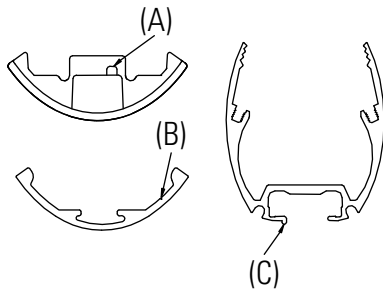

Figure 7
- A. Locate where you would like the track head(s) to be mounted. Snap in the track head casting. (Fig. 7 & Fig. 8)